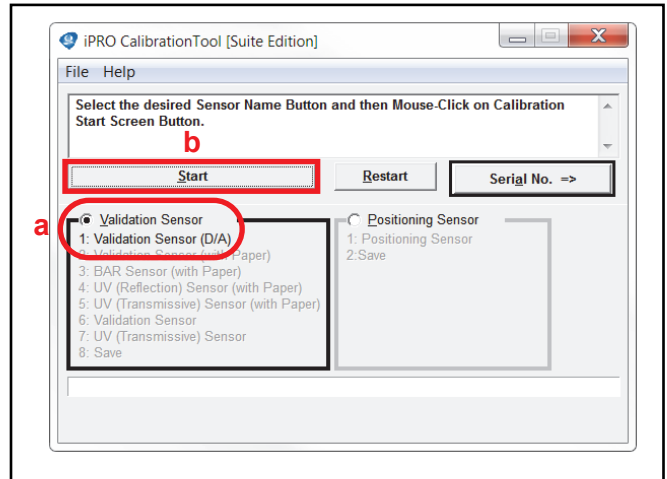

Figure 2: JCM Tool Suite v.1.35 - iPRO-101 Validation Sensor Calibration
4. Click the Validation Sensor radio button (Figure 2 a), then click Start (Figure 2 b). Follow the onscreen directions.